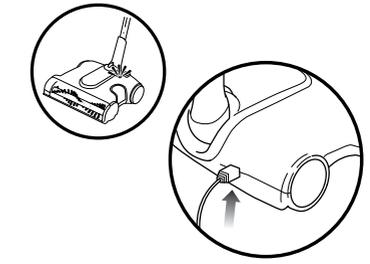

Fig. 3
- 2 Insert the charger plug into the port on the back of the unit. Plug the charger into a wall outlet. The light next to the power button will illuminate solid red when the unit is charging. If the unit is plugged in and the light is not illuminated, press the power button once. The light should now be solid red, indicating that the unit is charging. **(Fig. 3)** Once the battery pack is fully charged, the light will go off.